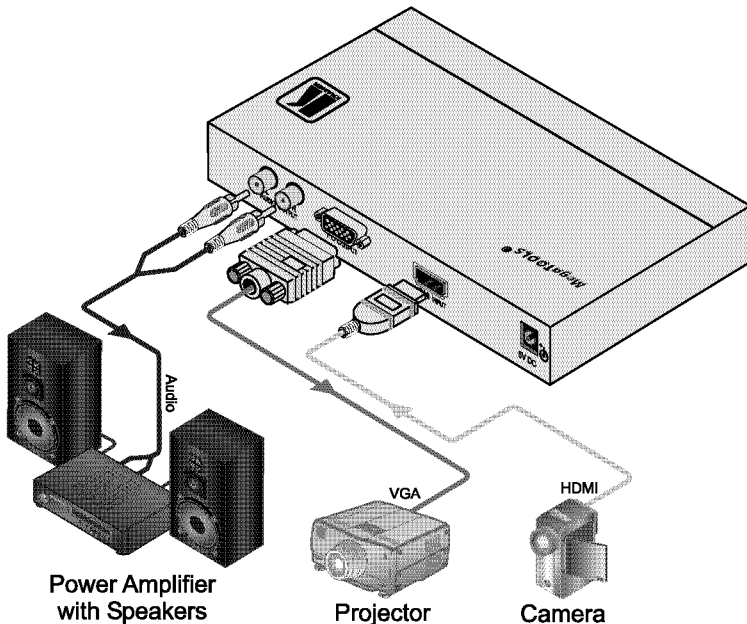

Figure 2: Connecting the VP-422 HDMI to PC Scaler
To connect the **VP-422**, as illustrated in the example in Figure 2 do the following:
4. Connect the 5V DC power adapter to the power socket and connect the adapter to the mains electricity (not shown in Figure 2).